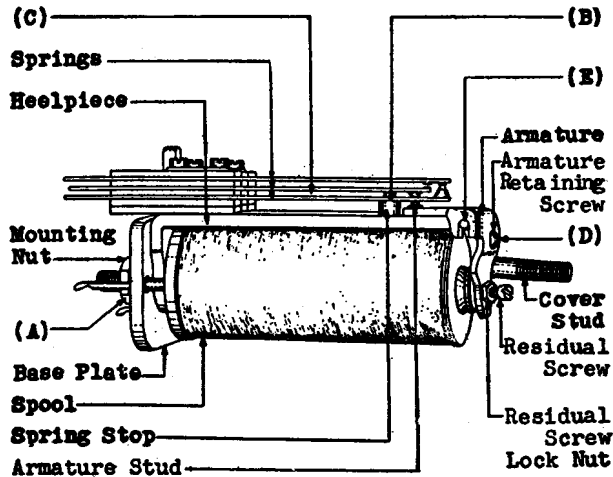

Fig. 3 - 207-type Relay
2.11 Relay Mounting: Fig. 3(A) — The spool shall be fastened securely to the heel-piece and the heel-piece shall be fastened securely to the base plate. The base plate shall be fastened securely to the mounting strip.
2.14 Stud and Stop Clearance: Fig. 3(B) — The studs and stops shall not rub on the springs through which they pass when the armature is moved. Gauge by eye and feel.
2.15 Separation Between Springs: Fig. 3(C) — There shall be a clearance between springs designed never to touch in the operated or unoperated position of the relay of
2.16 Tightness of Retaining Screws: Fig. 3(D) — The armature retaining screw shall be held securely in place. Gauge by feel.
2.17 Armature Movement: Fig. 3(E) — The armature shall move freely in its bearings.